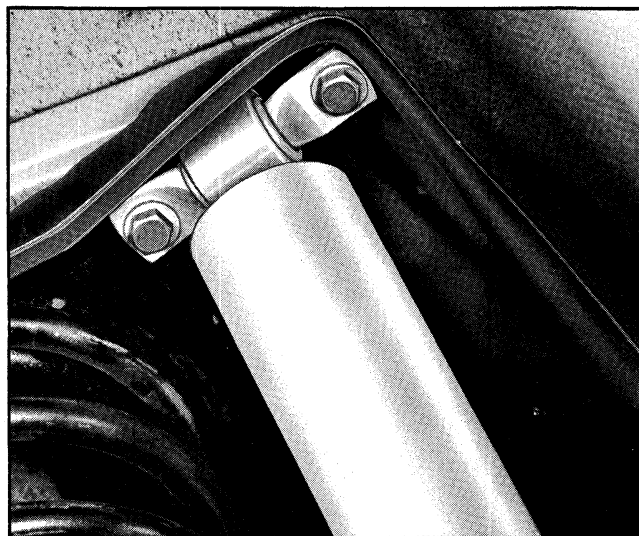

Fig. 3-25 Removal of Rear Shock Absorber
1. Remove nuts, bolts and lock washers at upper end of shock absorber (Fig. 3-25).